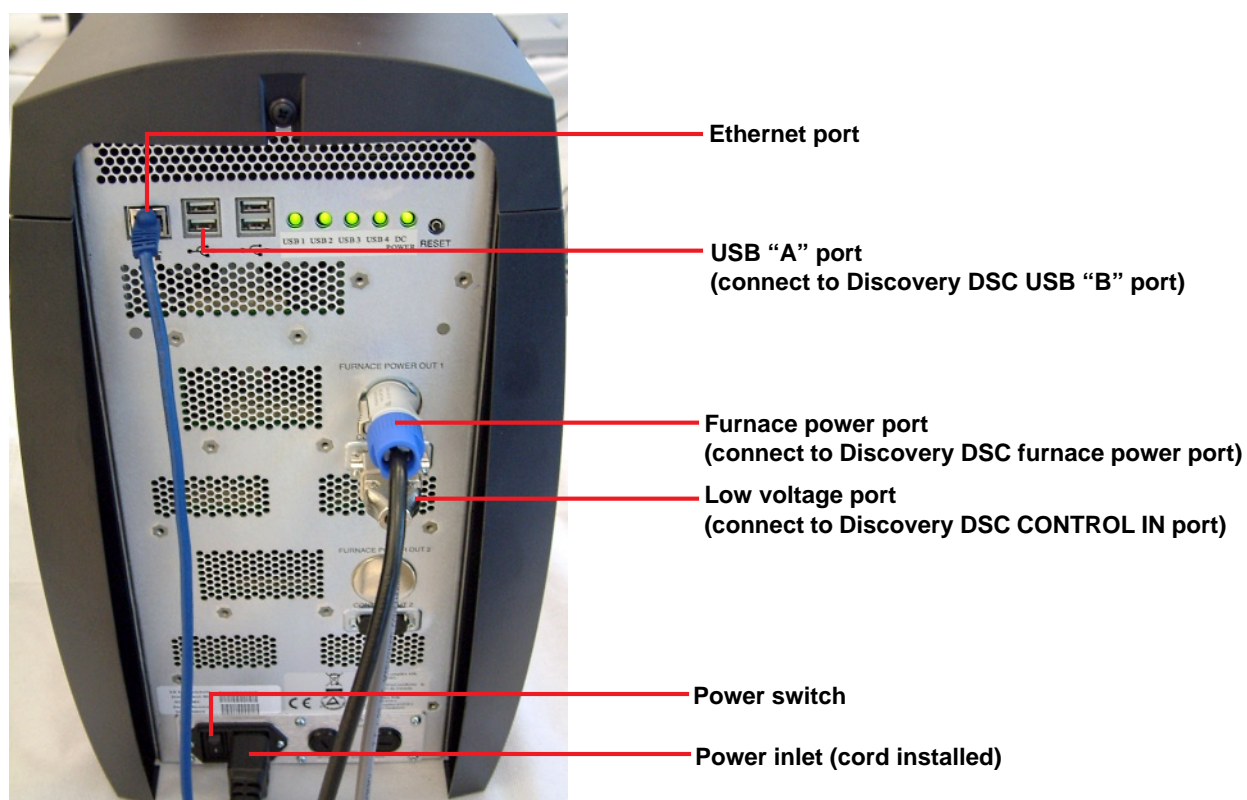
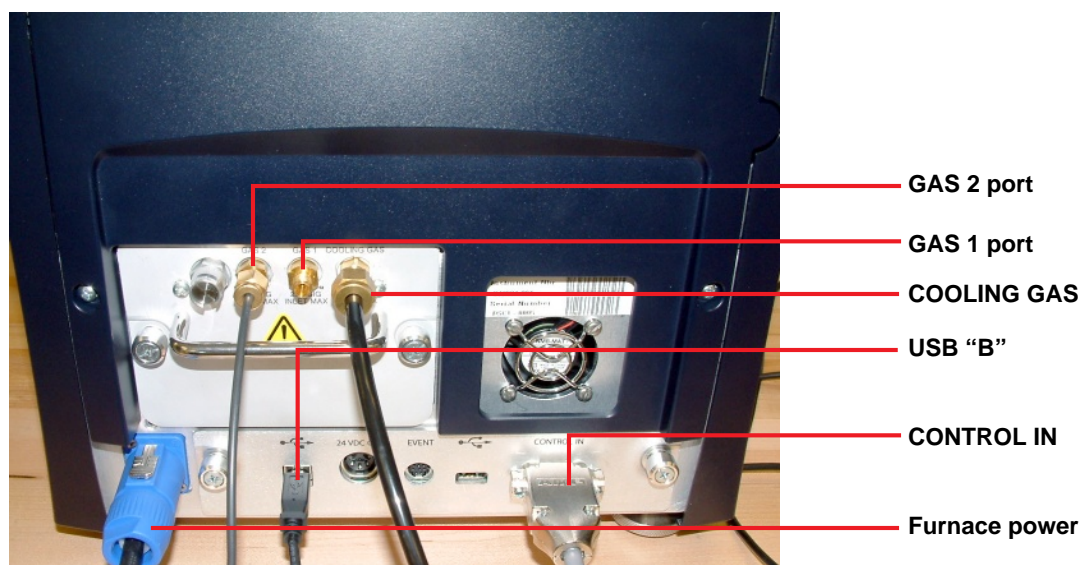

Figure 13 Common Cabinet rear panel connections.
Figure 14 Discovery DSC rear panel connections.
- 1 Connect the low voltage cable from the **CONTROL OUT 1** port on the back panel of the Common Cabinet to the **CONTROL IN** port on the back panel of the Discovery DSC. Refer to Figure 13 and Figure 14 for connection ports.
- 2 Connect the furnace power cable from the **FURNACE POWER OUT 1** port on the back panel of the Common Cabinet to the **FURNACE POWER IN** port on the back panel of the Discovery DSC. Refer to Figure 13 and Figure 14 for connection ports.
- 3 Connect the USB cable from any USB “A” port on the back panel of the Common Cabinet to the USB “B” port on the back panel of the Discovery DSC. Refer to Figure 13 and Figure 14 for connection ports.